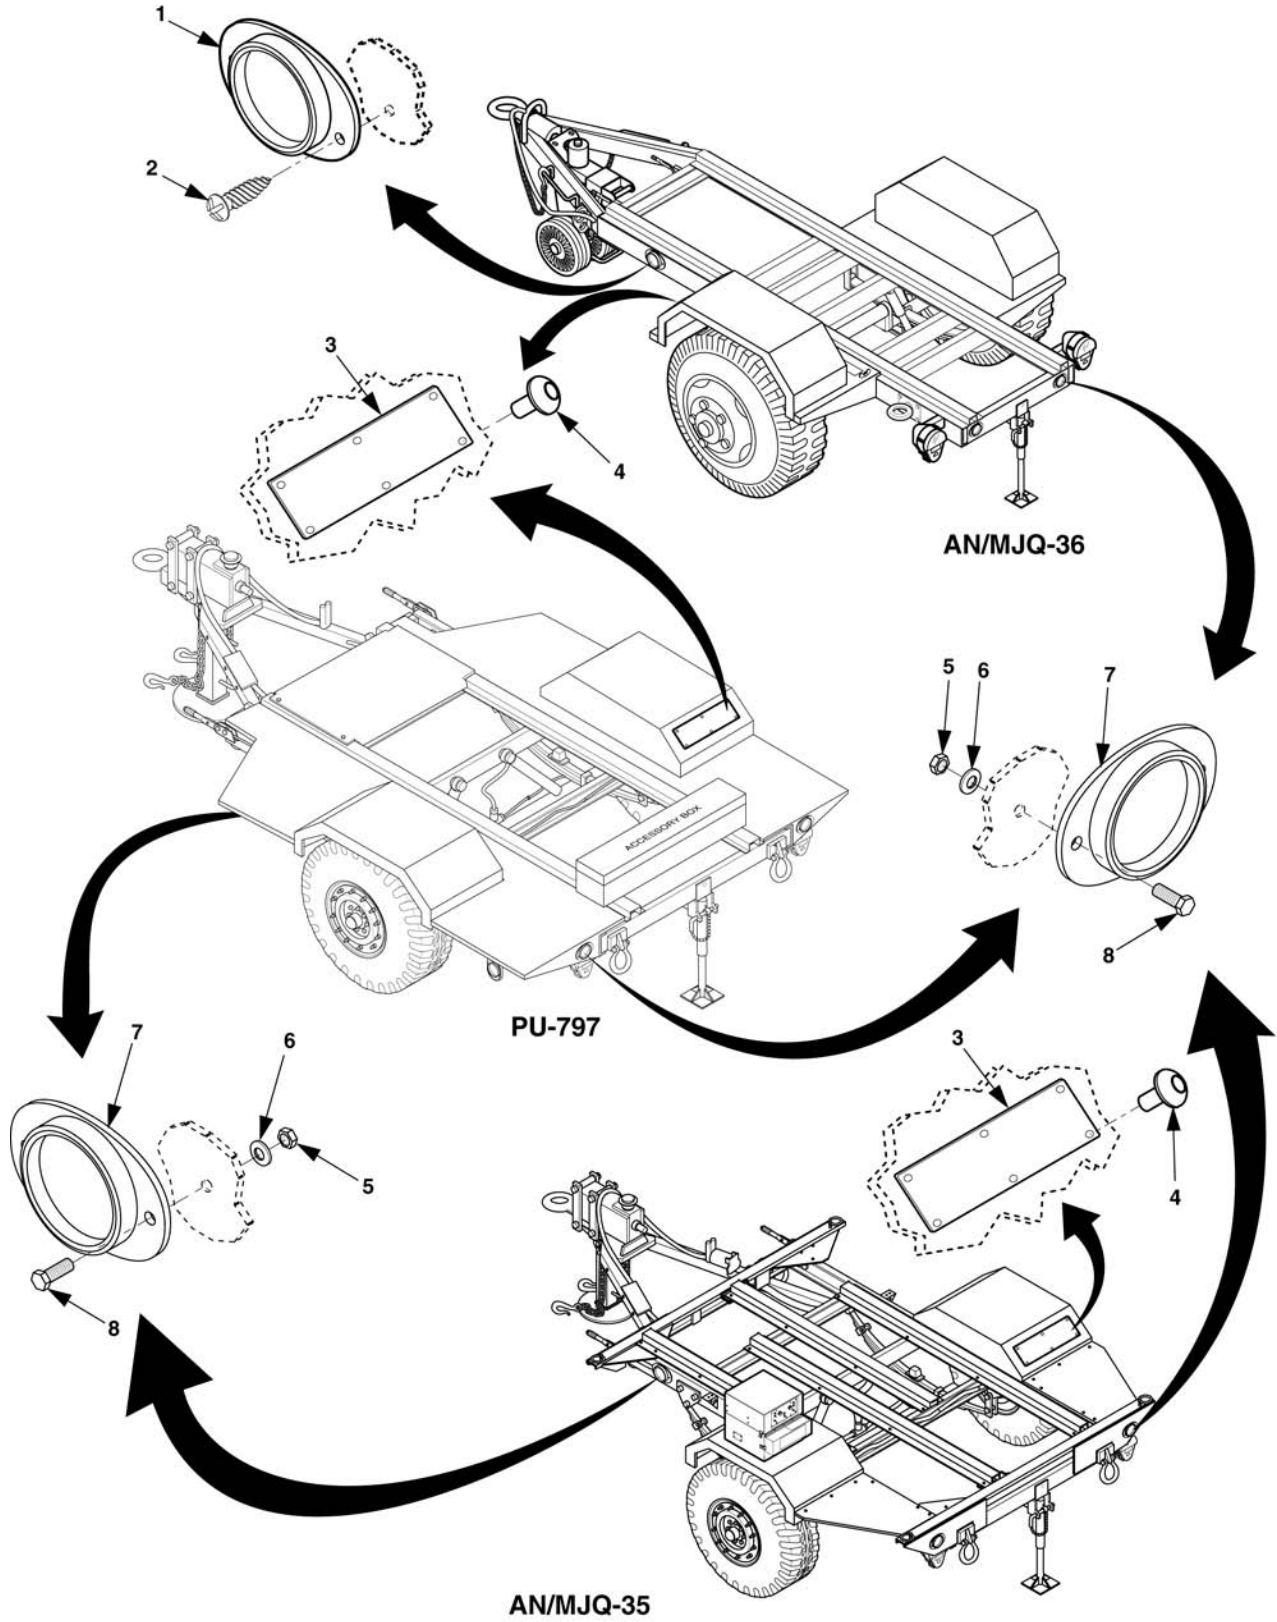

Figure 4-22. Identification/Transportation Data Plate and Reflector Replacement
- a. Drill out rivets (4, figures 4-22) and remove data plate (3).
- b. Position data plate (3) on trailer and install rivets (4).
- a. Remove self-locking nuts (5, figure 4-22), flat washers (6), screws (8), and reflector (7) from trailer (AN/MJQ-35 and PU-797, and rear of AN/MJQ-36 only).
- b. Remove self-tapping screws (2) and reflector (1) from front of trailer (AN/MJQ-36 only).
- c. Install reflector, (7), screws (8), flat washers (6), and self-locking nuts (5) on trailer (AN/MJQ-35 and PU-797, and rear of AN/MJQ-36 only).
- d. Install reflector (1) and self-tapping screws (2) on front of trailer (AN/MJQ-36 only).